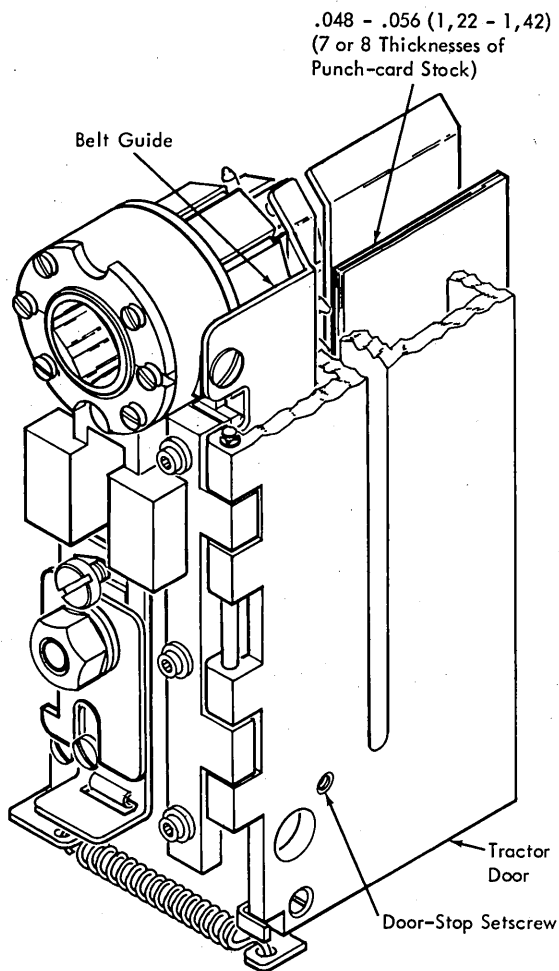

Figure 4-14. New Design Tractor Door Adjustment
4. Temporarily shim the tractor door .048 to .056 in. (1, 22 to 1, 42 mm) above the forms-guide plate by inserting spacers of suitable thickness between them. Feeler gauges can be used, but seven or eight strips of punch card may be more convenient to use, and work very well (Figure 4-14).